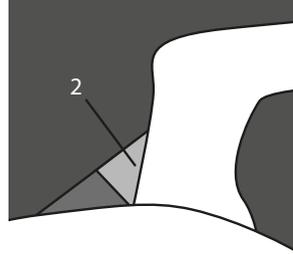

Figure 16 Wear indicator - good condition
2. If a green indicator is visible (on the handle), then the AKS 3004 is in a new condition or the pads and towball are within the permissible limits (Fig 16 - Item 2).